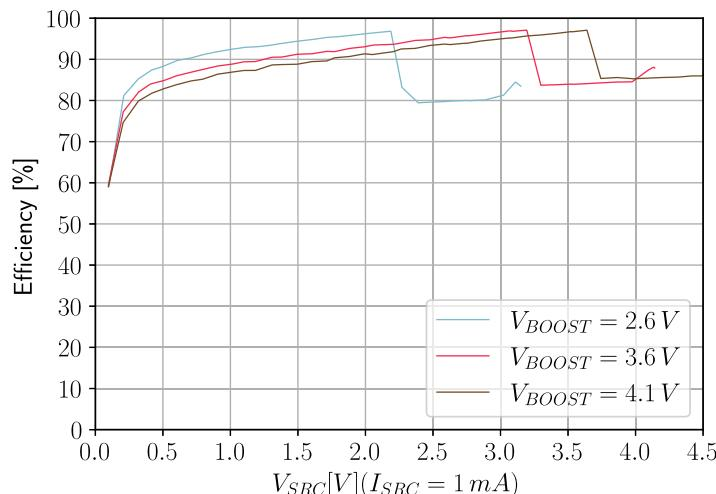

Figure 11: Boost efficiency for $I_{SRC} = 1$ mA ($L_{BOOST} = 22$ μ H)
- **VBOOST**: measure the current and the voltage. Repeat the measurement a copious number of times to be sure to capture the current peaks. Figure 11 has been obtained by averaging over 400 measurements configured with a 800 ms integration time.